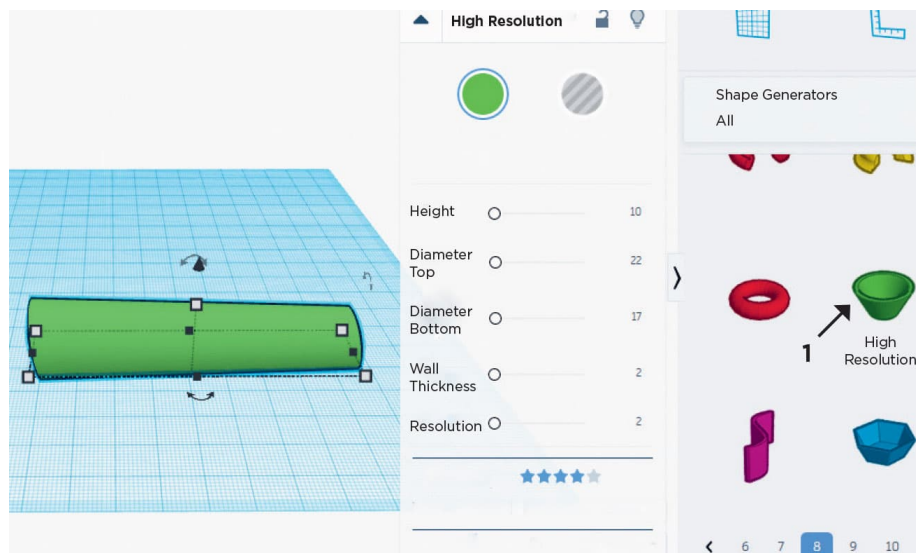

FIG. 2: Make the upper arm using a **High Resolution Tube**.
2. We will model the upper arm as a tapered tubular shape. We used the **High Resolution Tube** shape generator tool. See fig. 2, arrow 1 for details and dimensions.